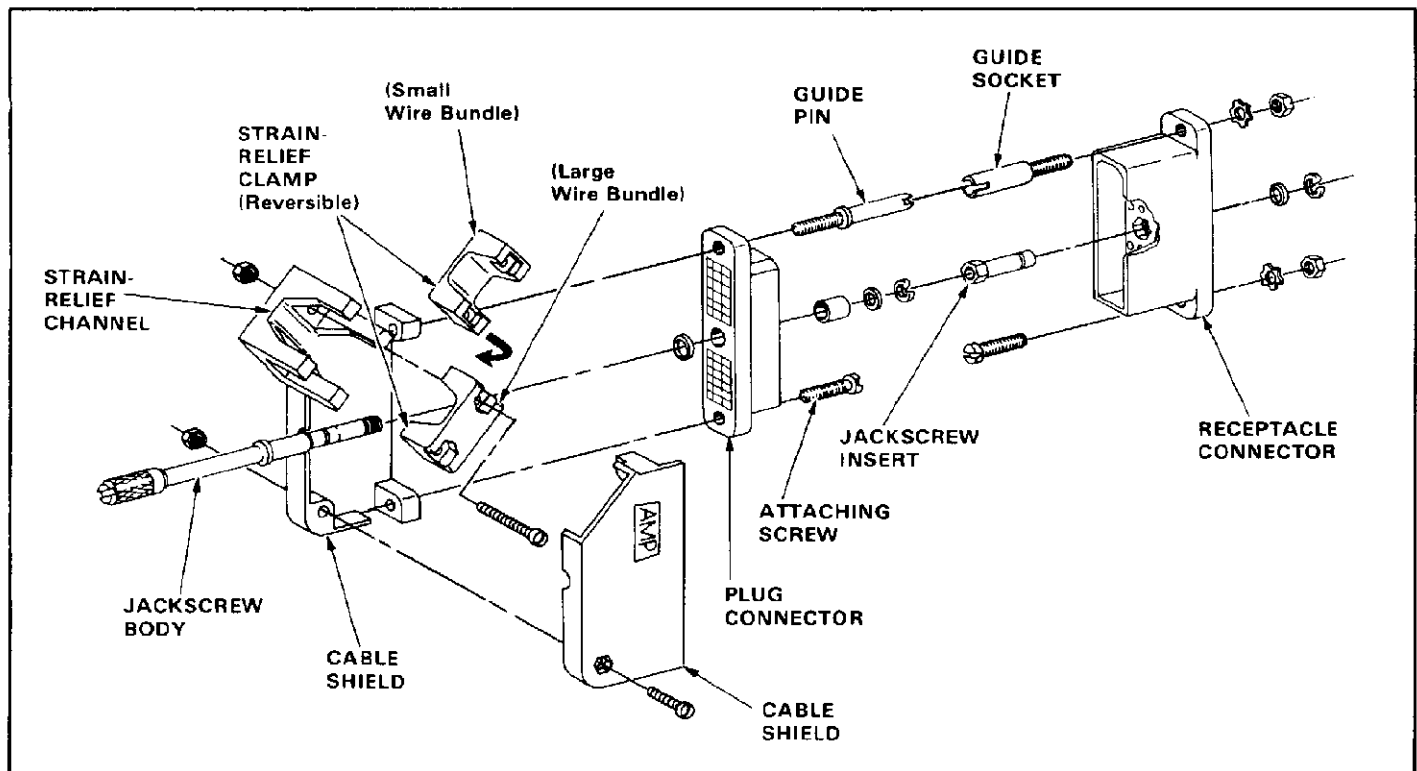

Fig. 3
8. JACKSCREW INSTALLATION (Figure 3)
11. SHIELD KIT INSTALLATION (Figure 3)
The strain-relief clamp can be reversed to accommodate various wire bundle thicknesses. See Figure 3.